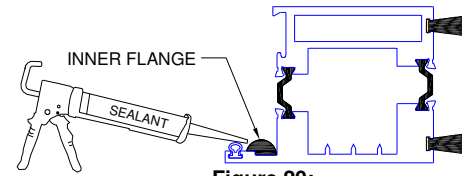

Figure 20:
2. Before glazing, apply a 1/4"×1/4"×6" bead of compatible sealant from each corner on inner flange of panel (Figure 20).
1. Apply a continuous 1/4"×1/4" bead of sealant before glazing. (Figure 20).